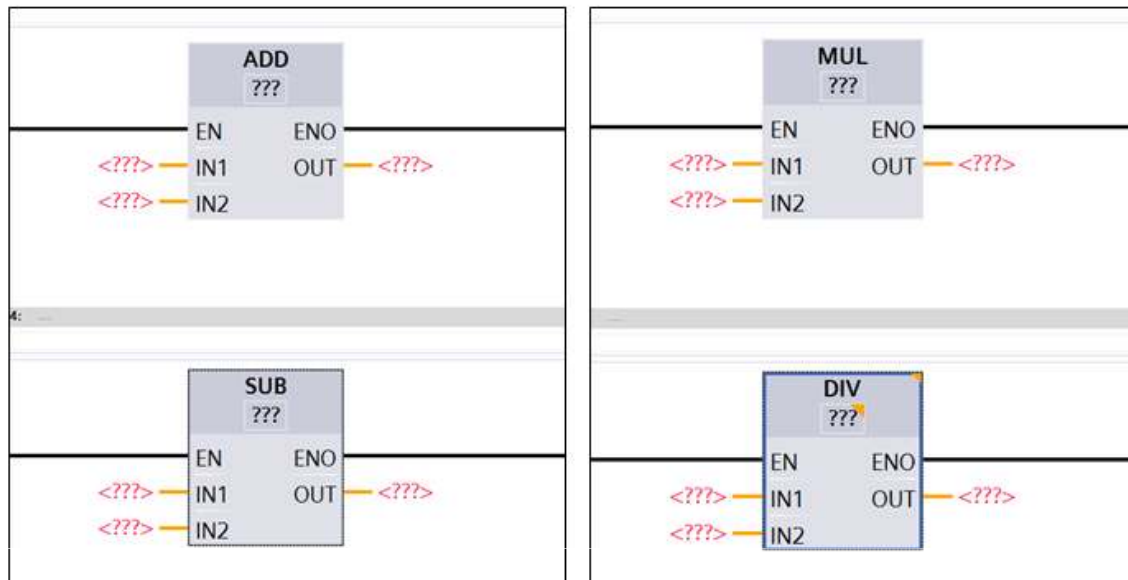

Fig 8.22 RLL for simple math functions
- The RLL function for simple math mainly addition, subtraction, multiplication and division is shown in Fig 8.22. For example, in case of add function; it is possible to add the value at input IN1 and the value at input IN2 and query the sum at output OUT ($OUT := IN1 + IN2$). A maximum of 2 inputs can be specified.